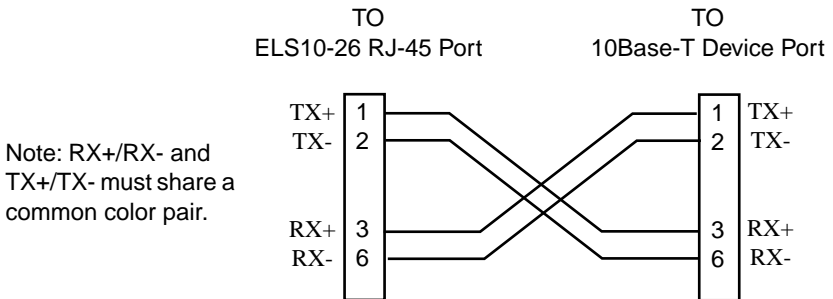
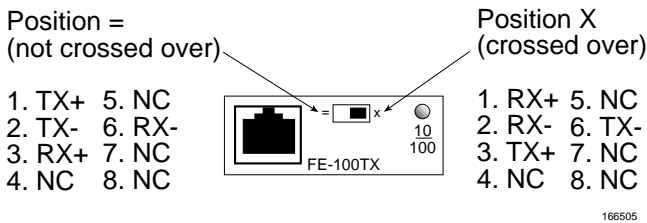

Figure 2-6. Cable Pinouts - (RJ45) Crossover Cable
Figure 2-7. FE-100TX Crossover Switch
- b. Verify that the RJ45 connectors on the twisted pair segment have the proper pinouts (Figure 2-7) and check the cable for continuity.
An FE-100-TX installed in port slot 27 is often used to provide a connection between the ELS10-26 and a bridge, router, or switch. Usually, in this configuration, a “straight-through” cable is used and the Fast Ethernet Interface Module crossover switch shown in Figure 2-7 is set to “not crossed over.”
A schematic of a crossover cable is shown in Figure 2-6. If the wires do not cross over, use the switch on the FE-100TX to internally cross over the RJ45 port. Figure 2-7 shows how to properly set the FE-100TX crossover switch.
2. Connect the twisted pair segment to the module by inserting the RJ45 connector on the twisted pair segment into the RJ45 port on the module. See Figure 2-7.